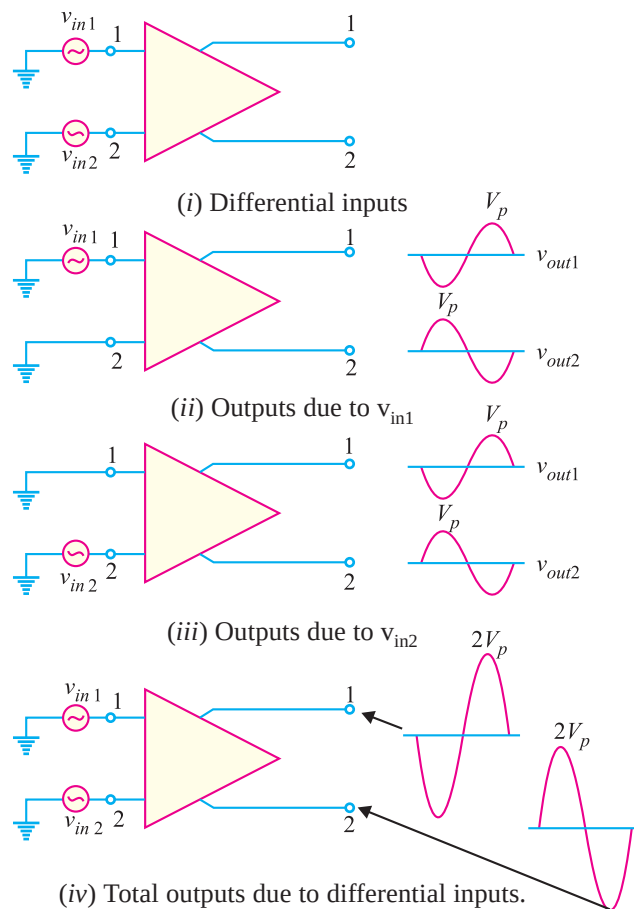

Fig. 25.10
(i) Differential input. In this mode (arrangement), two opposite-polarity (180° out of phase) signals are applied to the inputs of DA as shown in Fig. 25.10 (i).
As we shall see, each input affects the *outputs. Fig. 25.10 (ii) shows the output signals due to the signal on input 1 acting alone as a single-ended input. Fig. 25.10 (iii) shows the output signals due to the signal on **input 2 acting alone as a single-ended input. Note that in Figs. 25.10 (ii) and (iii), the signals on output 1 are of the same polarity. The same is also true for output 2. By superimposing both output 1 signals and both output 2 signals, we get the total outputs due to differential inputs [See Fig. 25.10(iv)].
* Note that in all the Figures in Fig. 25.10, the phase of the input signal is given in the circle and the phase shift in the output signal is given at the output terminals. Thus in Fig. 25.10 (ii), the output signal at terminal 1 is 180° out of phase with the input signal. On the other hand, the output signal at terminal 2 is in phase with the input signal.
** Note that a DA amplifies $(v_1 - v_2)$. For Fig. 25.10 (ii), $v_{in1} - v_{in2} = v_{in1} - 0 = v_{in1}$. For Fig. 25.10 (iii), $v_{in1} - v_{in2} = 0 - v_{in2} = -v_{in2}$.